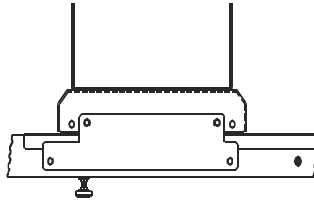

Figure 3-19. Carriage to Base Brackets
4. Remove the 2 carriage-to-base shipping brackets (Figure 3-19).